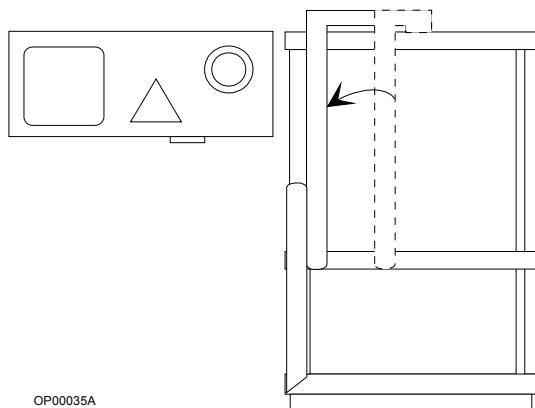

Figure 10-9. Reseating the Piston Assembly
4. Swing the piston assembly handle to the left and down as far as possible. See Figure 10-9.